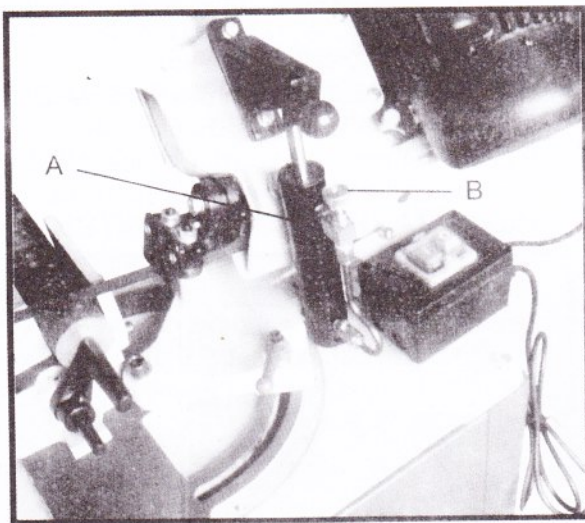

Fig. 12
2. There is an adjustable hydraulic cylinder (A) Fig. 12, connected to the saw arm regulates the rate at which the blade is lowered into the work piece.
3. There is a turning valve (B) Fig. 12, on the top of the hydraulic cylinder which is preset at the factory. This turning valve allows the pressure to be relieved if for some reason the saw arm is forced downward. Do not attempt to adjust the turning valve setting.